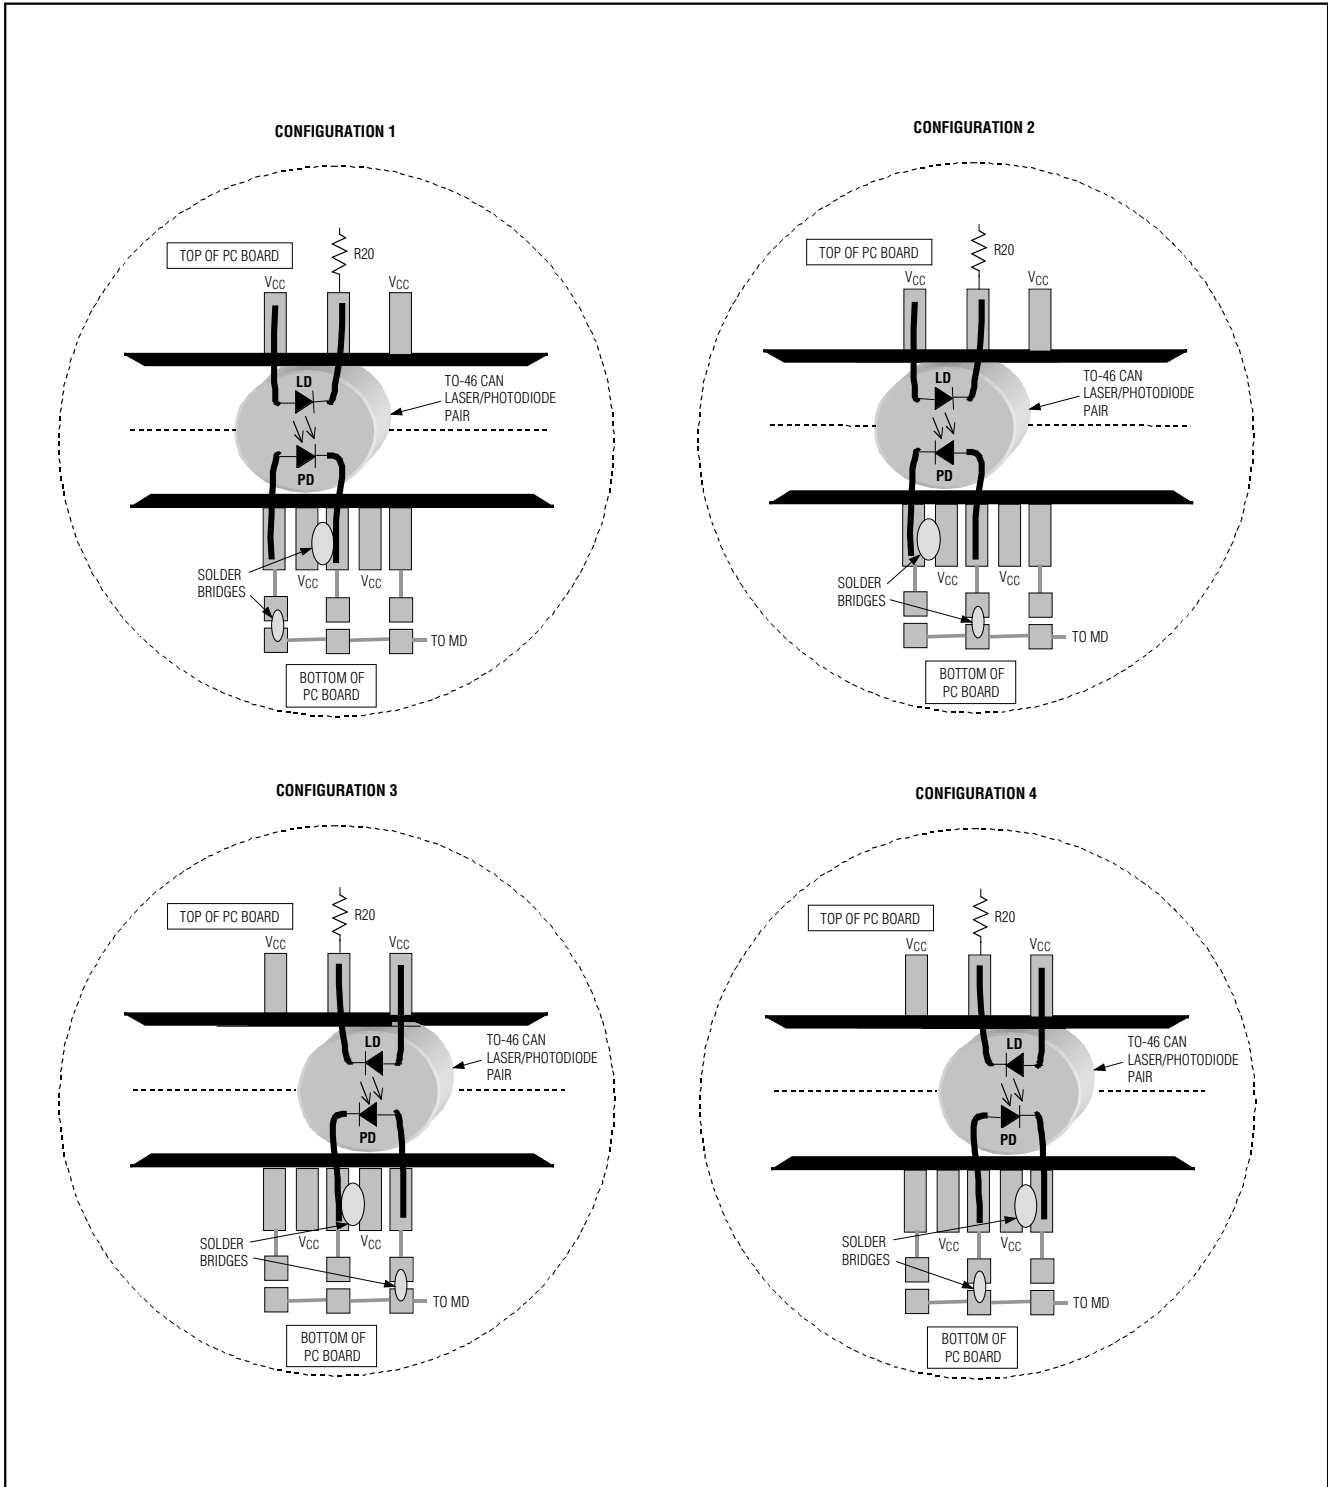

Figure 1. Attachment of Laser Diode/Monitor Diode to MAX3869 EV Kit
- 3) The EV kit is designed to allow connection of a variety of possible laser/monitor diode pin configurations. Connect a TO-header style laser with monitor diode (Figure 1) as follows:
- Connect the monitor photodiode to two of the five pads on the bottom (solder) side of the PC board, directly below the laser diode pads. Three of these pads (the middle and outside positions) are initially not connected. The other two pads are connected to VCC. Solder the anode and cathode of the monitor photodiode to any two of the three pads that are not connected. Then connect the anode to the MD pin by shorting the corresponding solder jumper (Figure 1). Connect the cathode to VCC by using solder to bridge to an adjacent VCC pad.